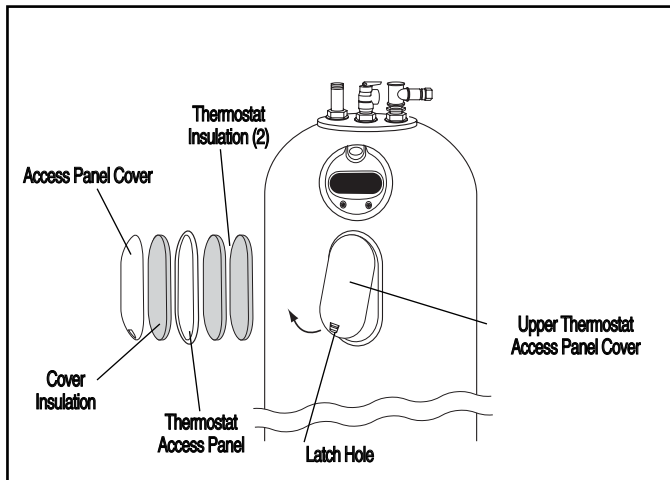
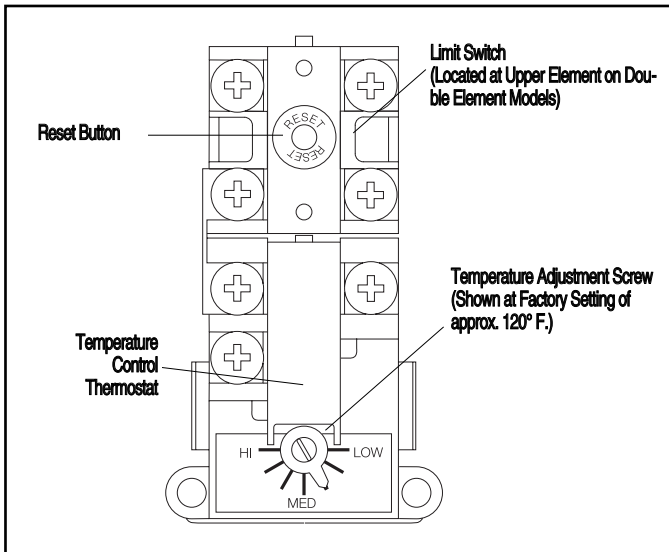

Figure 10 — Removing Upper Thermostat Access panel.
Figure 14 — Upper Thermostat & High Limit Switch
- A. Remove the upper thermostat snap-in access panel cover. Insert finger into latch hole on the bottom of the cover, and push up to release the latch. Then pull forward to remove the cover and insulation. (See figure 10.)
To reset High Limit Switch, turn off power to water heater, remove upper jacket access panel and insulation, and the access panel and insulation to expose the Thermostat and High Limit Switch. (Refer to Figure 10.) The plastic personnel protector SHOULD NOT be removed. Press the "RESET" button (see Figure 14). Replace insulation and jacket access panel(s) before turning on power to water heater.